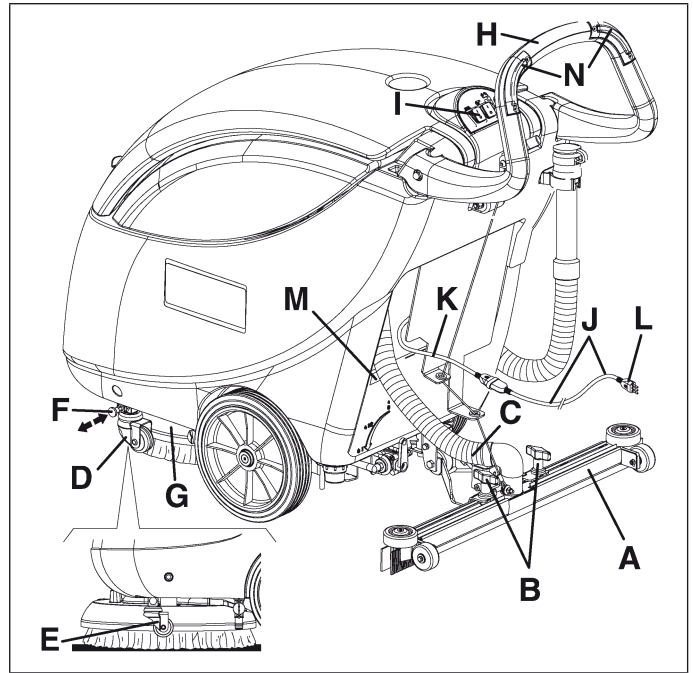

Figure 5
1. Install the squeegee (A, Fig. 5) and fix it by means of the squeegee knobs (B), then connect the vacuum hose (C) to the squeegee.
3. Deactivate the transport/parking device (D, Fig. 5) by putting it in position (E) after inserting the relevant pin (F).
4. Lift the brush cover (G, Fig. 5) by prying the handlebar (H).
6. Lower the cover (G, Fig. 5) by means of the handlebar (H).
7. Connect the extension (J, Fig. 5) with the power supply cable (K). Connect the extension plug (L) to the electrical mains.
Before connecting the machine to the electrical mains, make sure that the frequency and voltage shown in the serial number plate/technical data (M, Fig. 5) match the mains voltage.
8. Turn the brush/pad rotation switch (I, Fig. 5) to the "1" position; then hook the brush/pad-holder by pressing for a few seconds one or both switches (N, Fig. 5).